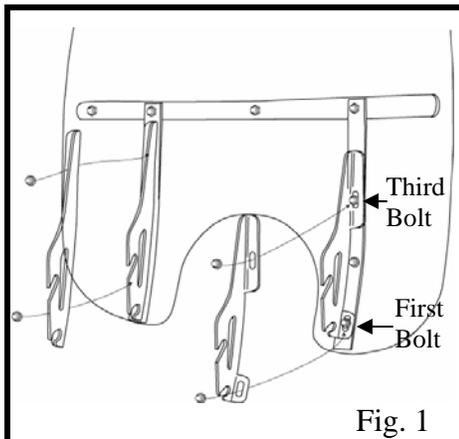

Fig. 1
2. Install the two mounting plates onto the windshield, using the bottom and third bolt up. Leave the nylon washers off. The small tab goes to the bottom, big one at the top. *Tabs point out towards the edge of the windshield.* (see fig. 1)